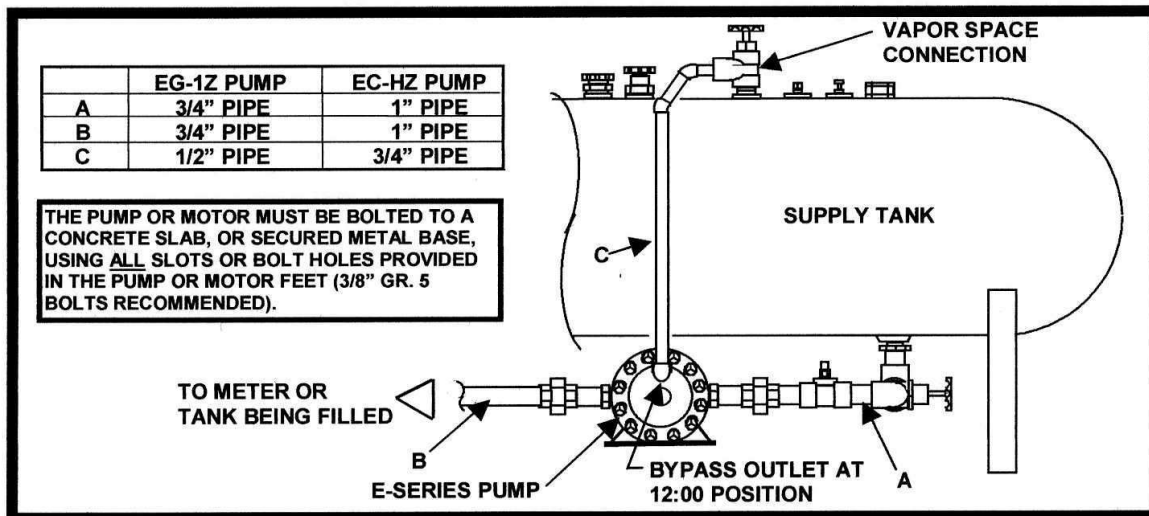

Fig. 3: GENERAL INSTALLATION OF E-SERIES LPG PUMP USING BUILT-IN BYPASS VALVE.
The installation of a small LPG pump can be made easily (Fig. 3). The small pump illustrated has a built-in strainer. If the pump requires a separate strainer, be sure that the strainer is properly placed between the storage tank and the pump inlet. A 1/4-in. excess flow valve is utilized in the bottom outlet of the tank, in Fig. 3, and the separate shut-off valve shown is an approved 1-in. globe, angle, or ball valve. An approved internal valve can also be utilized. For best results with both models mentioned above, item (A) is a 1-in. Sch. 80 heavy-duty steel pipe, with a 1/4-in. hydrostatic relief valve installed in a tee. Item (B) is the outlet line, which can usually be the same size pipe as the pump outlet, or identically sized standard length hose, with the appropriate hose excess flow and end valves. No bypass valve is shown in Fig. 3, because the pump has a built-in bypass valve, which is arranged to discharge through an external line. Also, no pressure equalizing line is shown, since one is usually not necessary with small LPG and NH3 pumps. A pressure equalizing line can be used if desired, as can an external bypass valve discharging to the supply tank (these would be required for small pumps in low-pressure liquid Carbon Dioxide service). Be sure to follow all safety regulations.